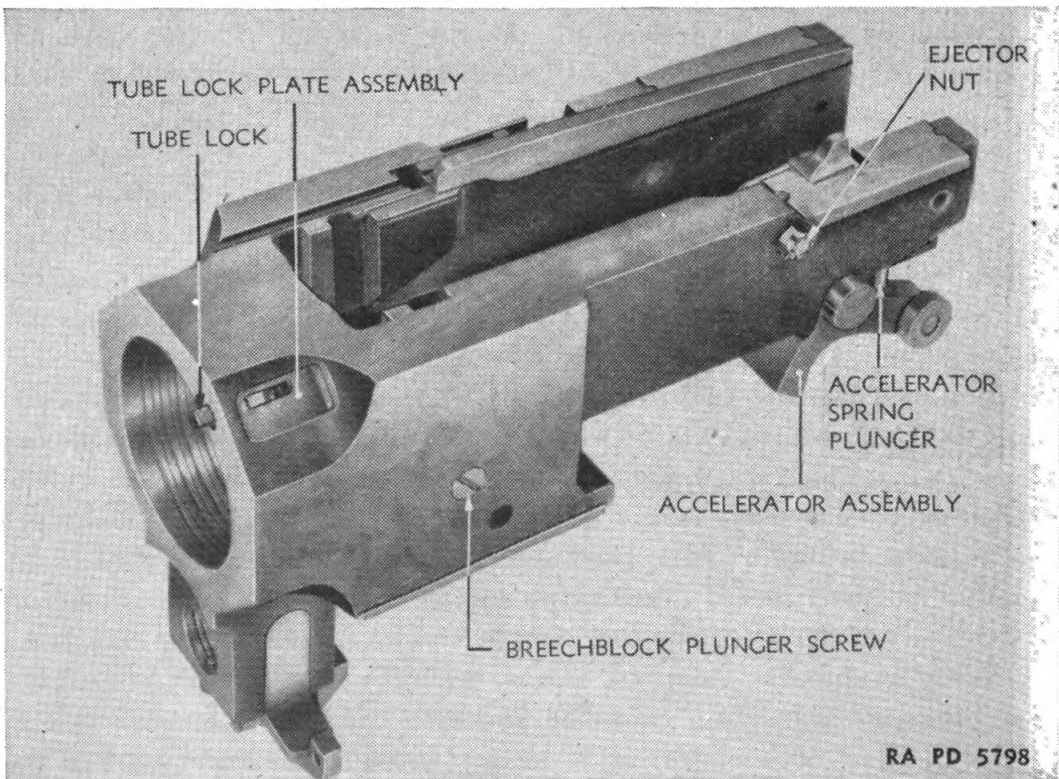

FIGURE 15.—Left front view of tube extension.
*a. Accelerator assembly (fig. 15).*—This is a lever which, when revolved about its axis by a cam (fig. 19) on the lower rear part of the left side plate of the trunnion block, accelerates the lock frame to the back plate buffer mechanism.